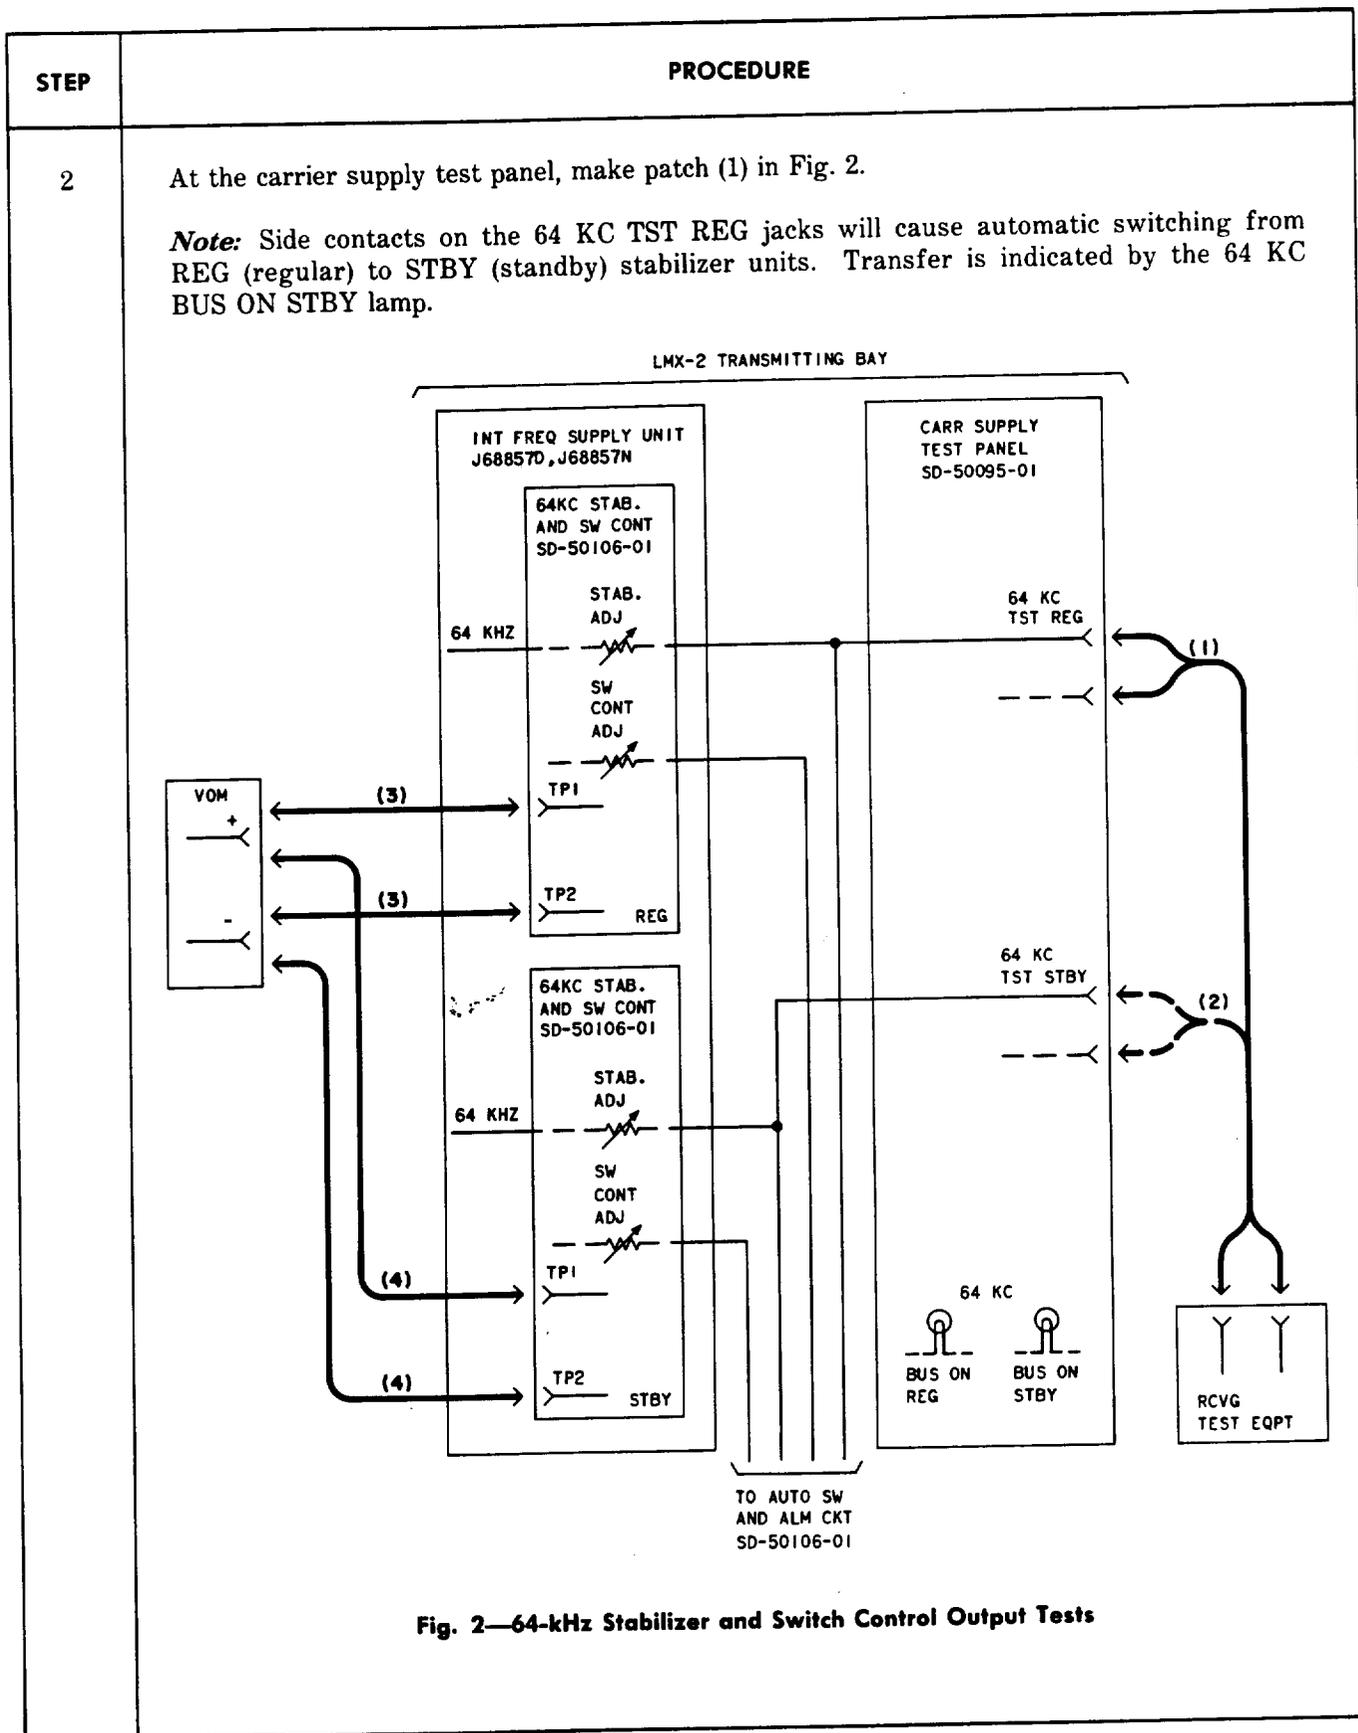

Fig. 2—64-kHz Stabilizer and Switch Control Output Tests
5	<p>Remove patch (1) in Fig. 2.</p>
6	<p>Make patch (2) in Fig. 2.</p> <p>Note: The automatic switch circuit will switch to the REG 64 KC STAB AND SW CONT unit. Transfer is indicated by the 64 KC BUS ON REG lamp.</p>
8	<p>Remove patch (2) in Fig. 2.</p> <p>Switch Control</p>
10	<p>Make patch (3) in Fig. 2.</p> <p>Note: Observe and maintain correct polarity of the VOM test leads.</p>
13	<p>Remove patch (3) in Fig. 2.</p>
14	<p>Make patch (4) in Fig. 2.</p>
16	<p>Remove patch (4) in Fig. 2.</p>